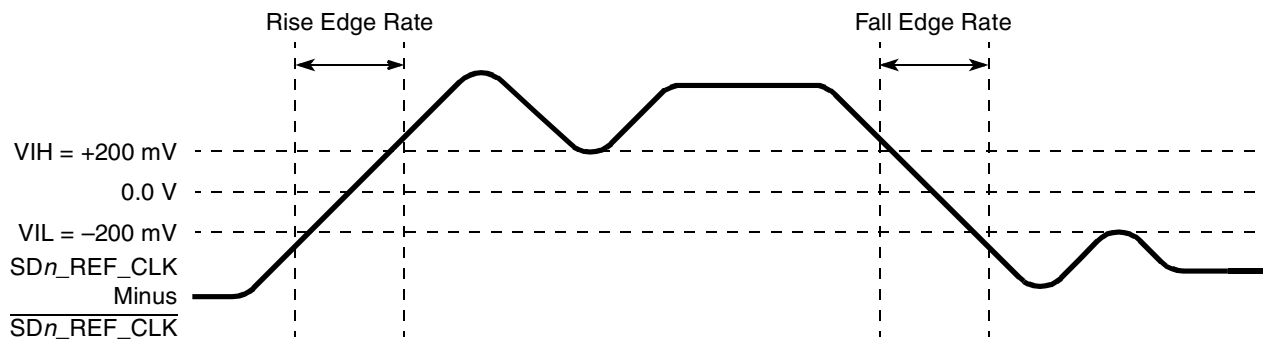

Figure 57. Differential Measurement Points for Rise and Fall Time
The differential waveform is constructed by subtracting the inverting signal ($\overline{SDn_TX}$, for example) from the non-inverting signal (SDn_TX , for example) within a differential pair. There is only one signal trace curve in a differential waveform. The voltage represented in the differential waveform is not referenced to ground. Refer to Figure 57 as an example for differential waveform.
3. Measured from –200 mV to +200 mV on the differential waveform (derived from $\overline{SDn_REF_CLK}$ minus $\overline{SDn_REF_CLK}$). The signal must be monotonic through the measurement region for rise and fall time. The 400 mV measurement window is centered on the differential zero crossing. See Figure 57.